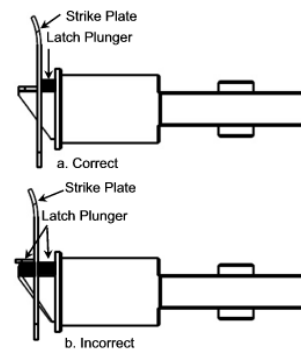

fig. 12
7. **Caution:** User **MUST** install strike plate included in package. The existing strike must be removed if there is one on door jamb. Check the operation of the latch by ensuring that the latch plunger stops against the strike plate and does not slide into the strike opening when the door is closed (see fig. 12). If that situation occurs, then a total lockout may occur. This situation will void our warranty of the complete lock mechanism. If necessary, correct the door over-travel by using the rubber bumper